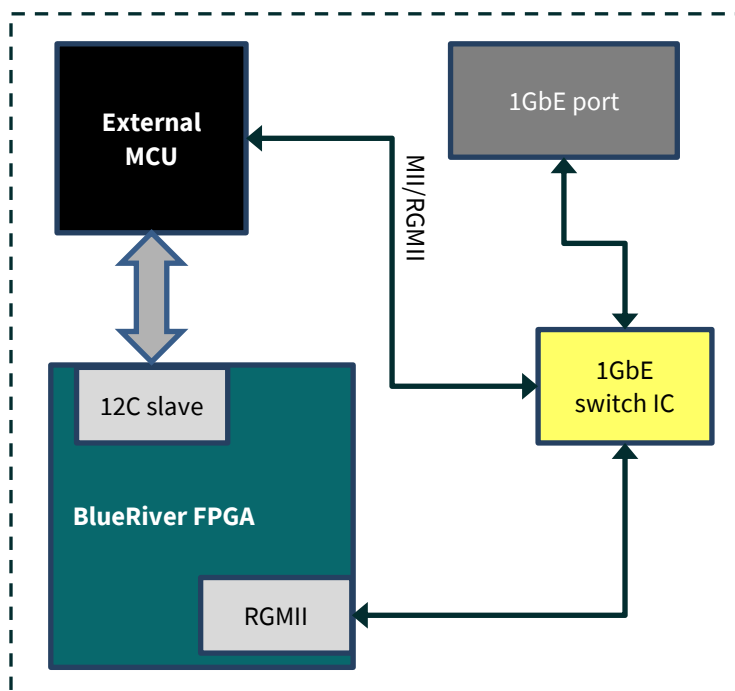

Figure 13: Connecting external MCU to 1GbE Ethernet
2. Connect the external microcontroller to the internal 1GbE Switch that is also connected to the BlueRiver RGMII. This allows for the microcontroller to be remotely controlled (from software) using Ethernet packets and custom protocol. Refer to Figure 13: Connecting external MCU to 1GbE Ethernet.